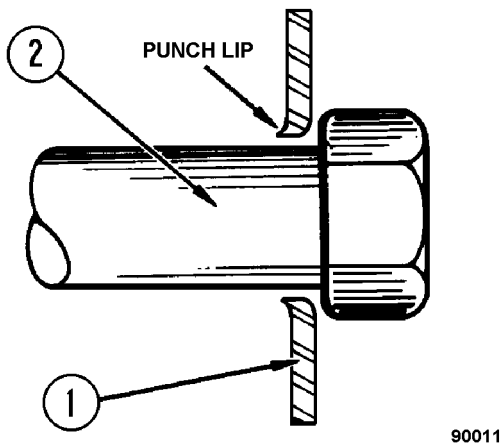

FIGURE 50-21. MOUNTING HARDWARE
6. The hardened washers used in this application could be punched during the manufacturing process. Therefore, they must be assembled with the punch lip away from head of the mounting cap screws to prevent damage to the fillet between cap screw head and shank. Refer to Figure 50-21.